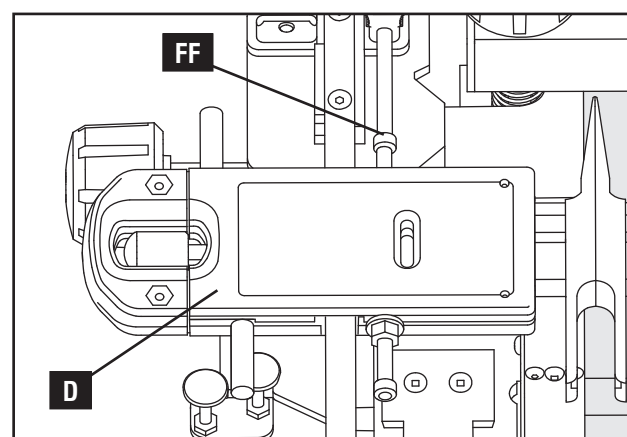

Fig. E18
NOTE: Be sure to replace the template (D) Fig. E18 firmly against new stop positions before making the router cut.